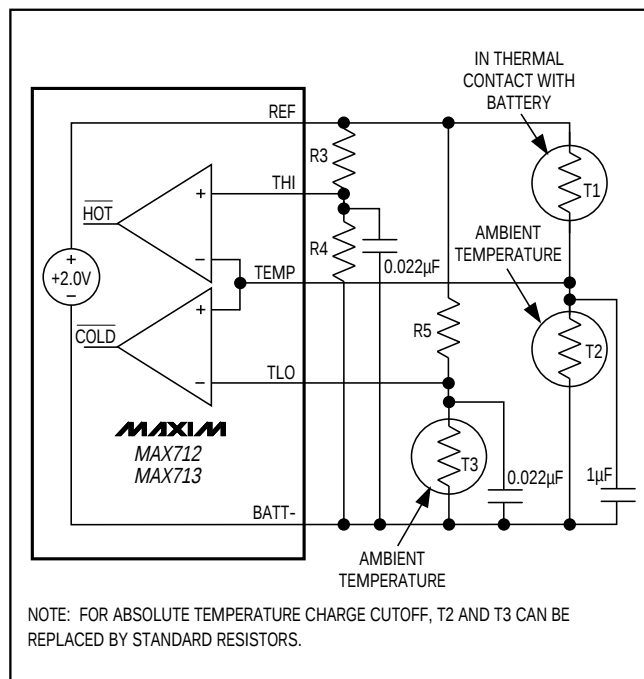
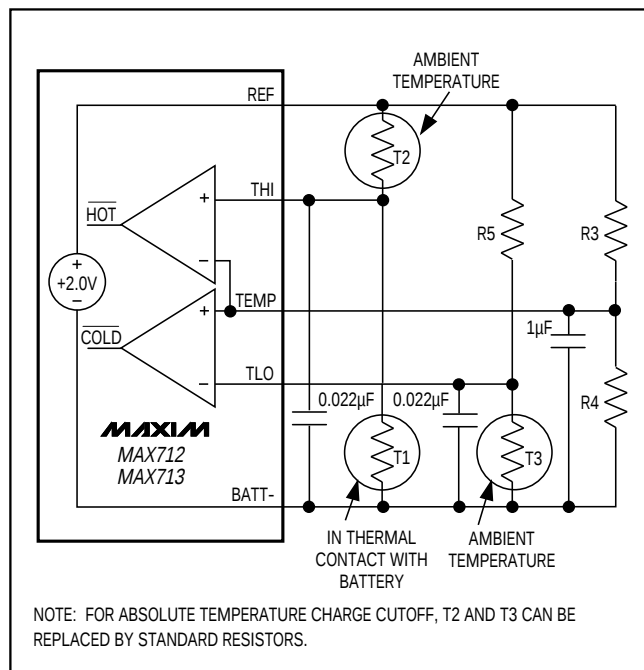
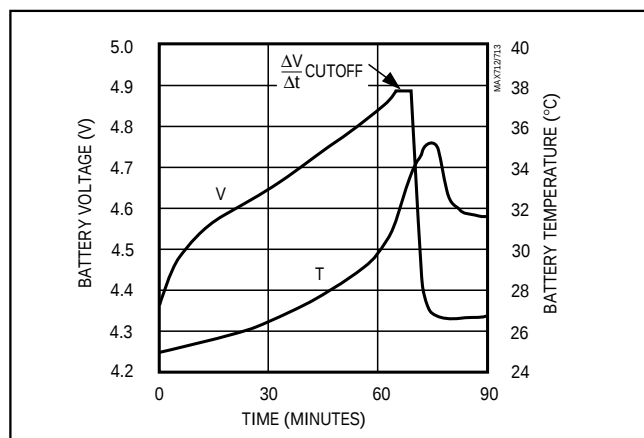

Figure 9a. Temperature Comparators
Figure 9b. Alternative Temperature Comparator Configuration
Figure 13. 3 NiMH Cells Charged with MAX712
Figure 9a shows how the MAX712/MAX713 detect over- and under-temperature battery conditions using negative temperature coefficient thermistors. Use the same model thermistor for T1 and T2 so that both have the same nominal resistance. The voltage at TEMP is 1V (referred to BATT-) when the battery is at ambient temperature.
terminal. In this case, use the configuration shown in Figure 9b. Thermistors T2 and T3 can be replaced by standard resistors if absolute temperature charge cutoff is acceptable. All resistance values in Figures 9a and 9b should be chosen in the 10k Ω to 500k Ω range.
Figures 13 and 14 show the results of charging 3 AA, 1000mAh, NiMH batteries from Gold Peak (part no. GP1000AAH, GP Batteries (619) 438-2202) at a 1A rate using the MAX712 and MAX713, respectively. The *Typical Operating Circuit* is used with Figure 9a's thermistor configuration.